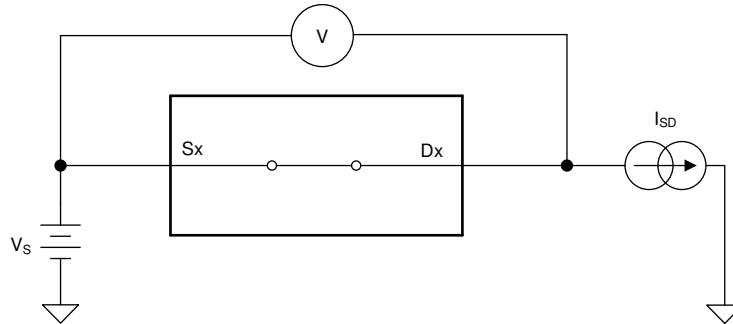

图 6-1. On-Resistance Measurement Setup
The on-resistance of a device is the ohmic resistance between the source (Sx) and drain (Dx) pins of the device. The on-resistance varies with input voltage and supply voltage. The symbol  $R_{ON}$  is used to denote on-resistance. The measurement setup used to measure  $R_{ON}$  is shown in 图 6-1. Voltage (V) and current ( $I_{SD}$ ) are measured using this setup, and  $R_{ON}$  is computed as shown below with  $R_{ON} = V / I_{SD}$ :